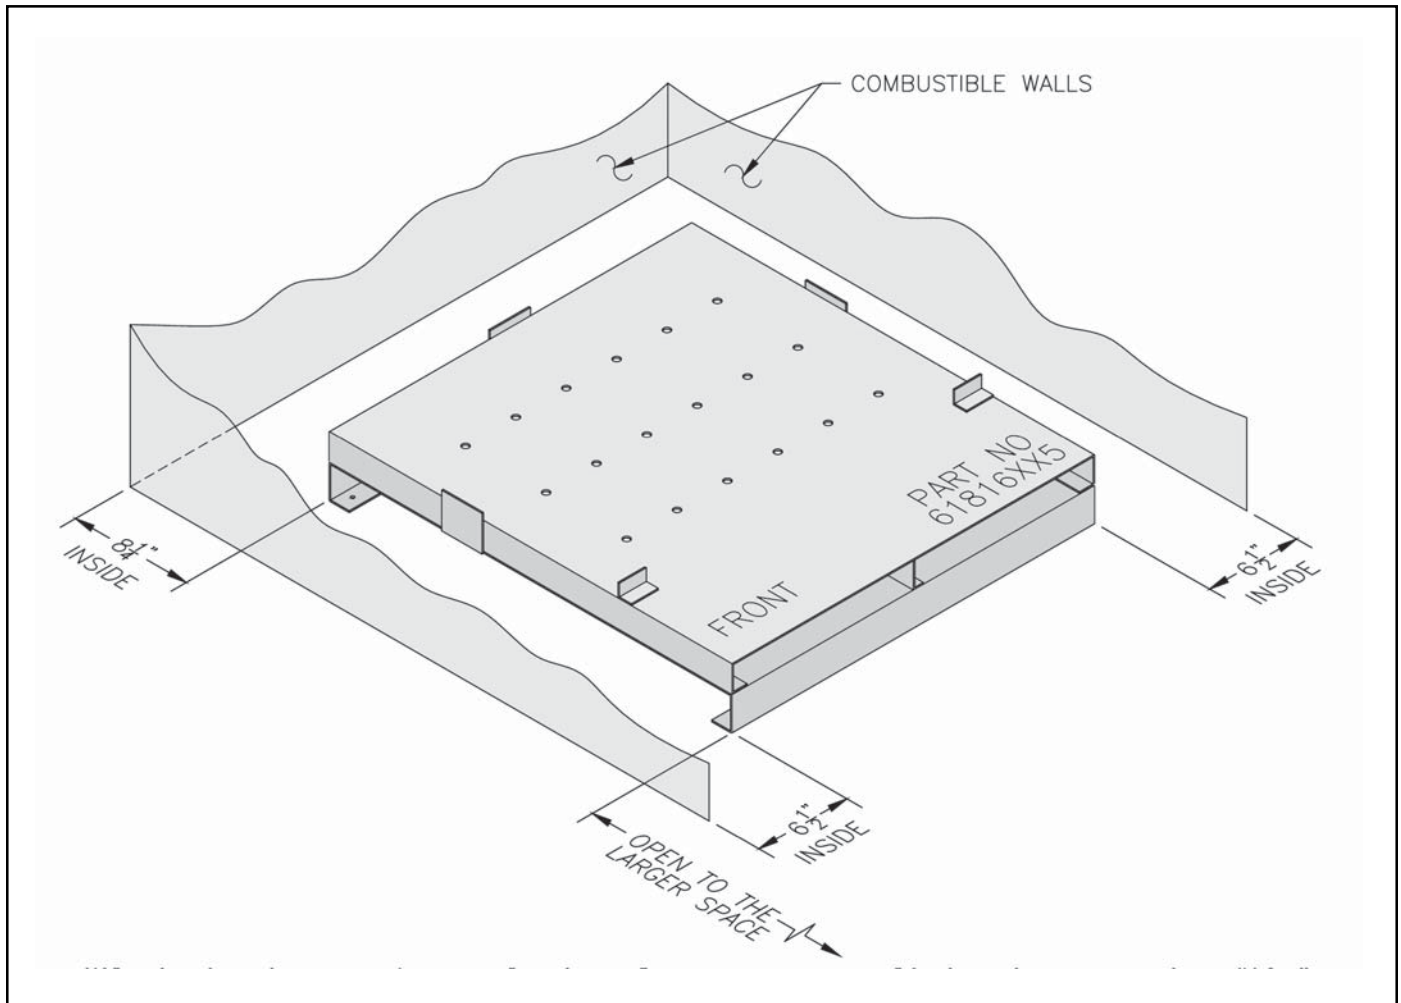

Figure 4: Installation of Special Base for Combustible Flooring
E. Install special base if installation is on combustible flooring. See Figure 4. Floor shield adds 4 3/4" to boiler height.
2. Locate special base with spacing to combustible materials as shown in Figure 4.
on three sides (alcove) while maintaining clearances shown in Figure 4.